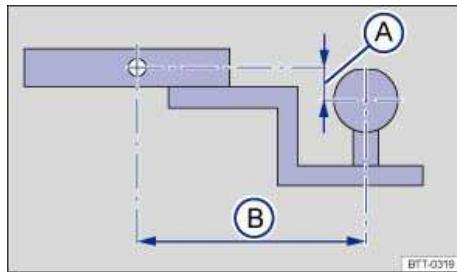

Fig. 108 Dimensions of the ball mount support.
The receiver used requires both a ball mount and a ball that meet special requirements regarding geometry and size. This applies to both the height of the ball above the surface where it attaches  fig. 108 (A), and the pin-to-ball distance (B).